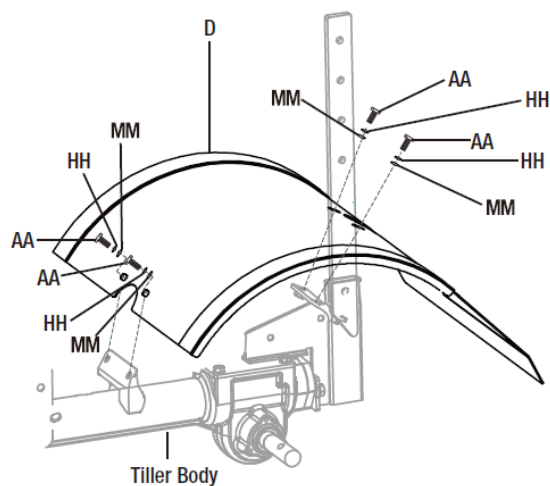

Figure 1-2
Locate the plates with the pre-drilled holes on the rear part of the tiller body. Align the protective shield (D) holes to the plate holes. Insert M8x20 bolts (AA) with spring washers (HH) and regular washers (MM) and tighten with a wrench. See Figure 1-2.